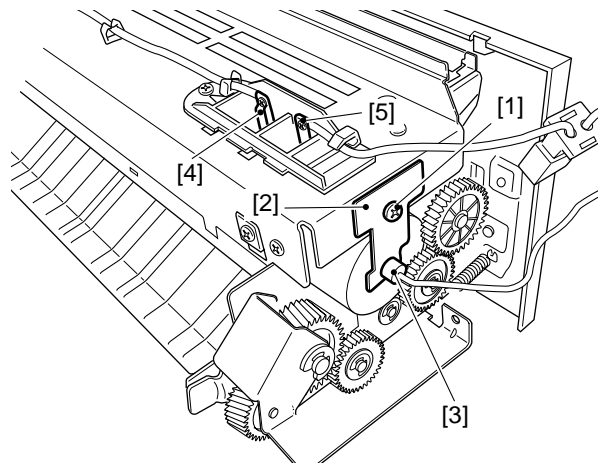

Figure 6-207
- 2) Pull out faston A [4] (see Figure 6-207), and remove the two screws [1]; the heater mount plate (front) [2] can be detached in this condition.